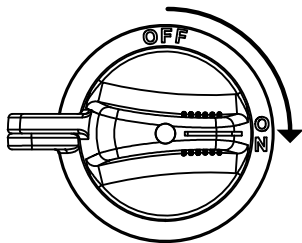

Figure 40. Battery Switch (ON)
3. Place the **Battery switch** (Figure 40) in the **ON** position.